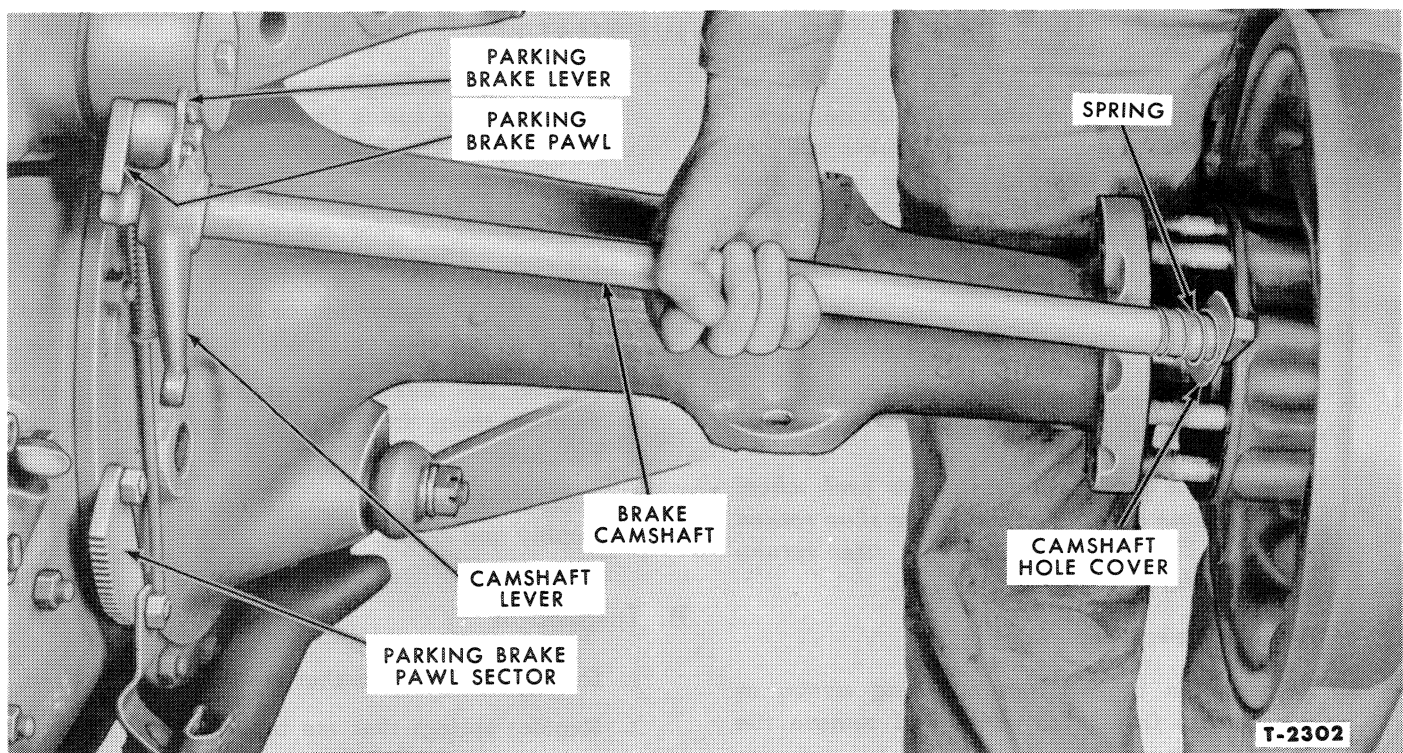

Figure 6—Removing Brake Camshaft Assembly
5. Carefully work the camshaft out of the brake backing plate, Figure 6.